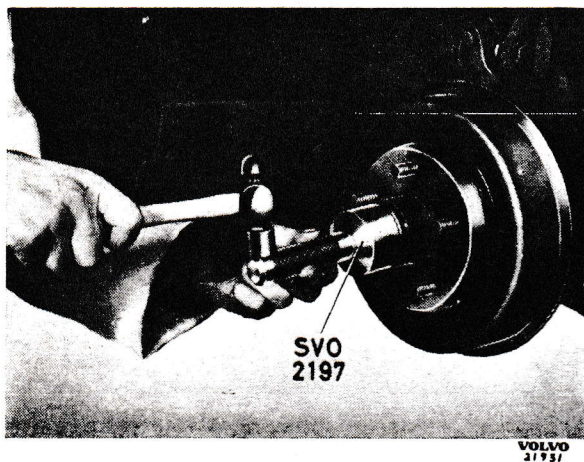
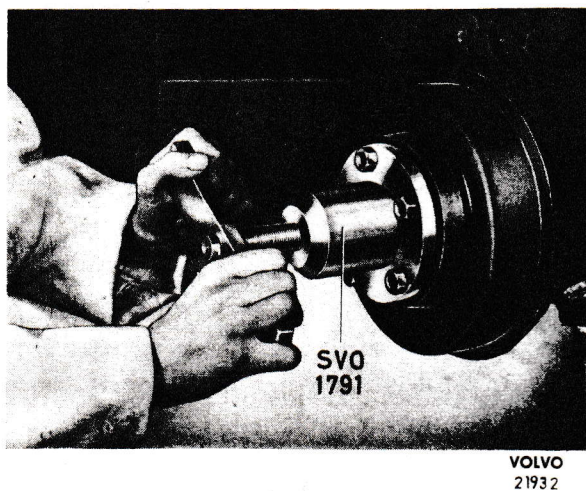

Fig. 8. Removing the grease cap.
Fig. 9. Removing the hub.
2. Remove the grease cap with tool SVO 2197 (Fig. 8). Remove the split pin and castle nut. Pull off the hub with tool SVO 1791 (Fig. 9). If the inner bearing does not come out with it this can be pulled off the spindle with tool SVO 1794 (Fig. 10).
2. Release the handbrake. Remove the split pin and castle nut. Pull off the hub with tool SVO 1791 (Fig. 9).